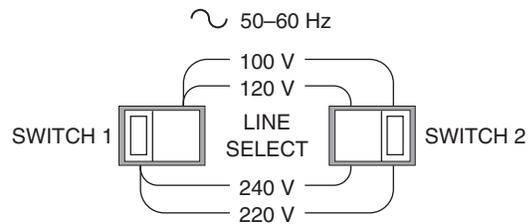

Figure 5. Rear Panel Power Supply Voltage Switches in Positions with Switch 1 set to Left and Switch 2 set to Right
- i. Configure the Model 1835-C's power supply voltage selection switches to match the nominal local voltage. See Figure 5 and Table 21.